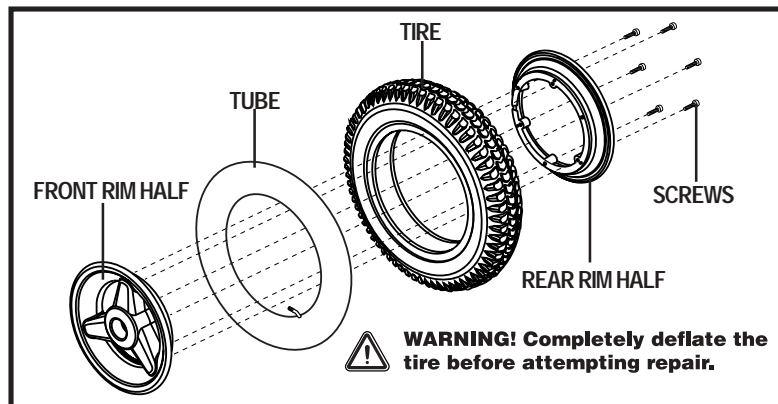

Figure 25. Quantum 1402 Drive Wheel Disassembled
6. Remove the screws from the rim assembly and separate the front and rear rim. See figure 25.